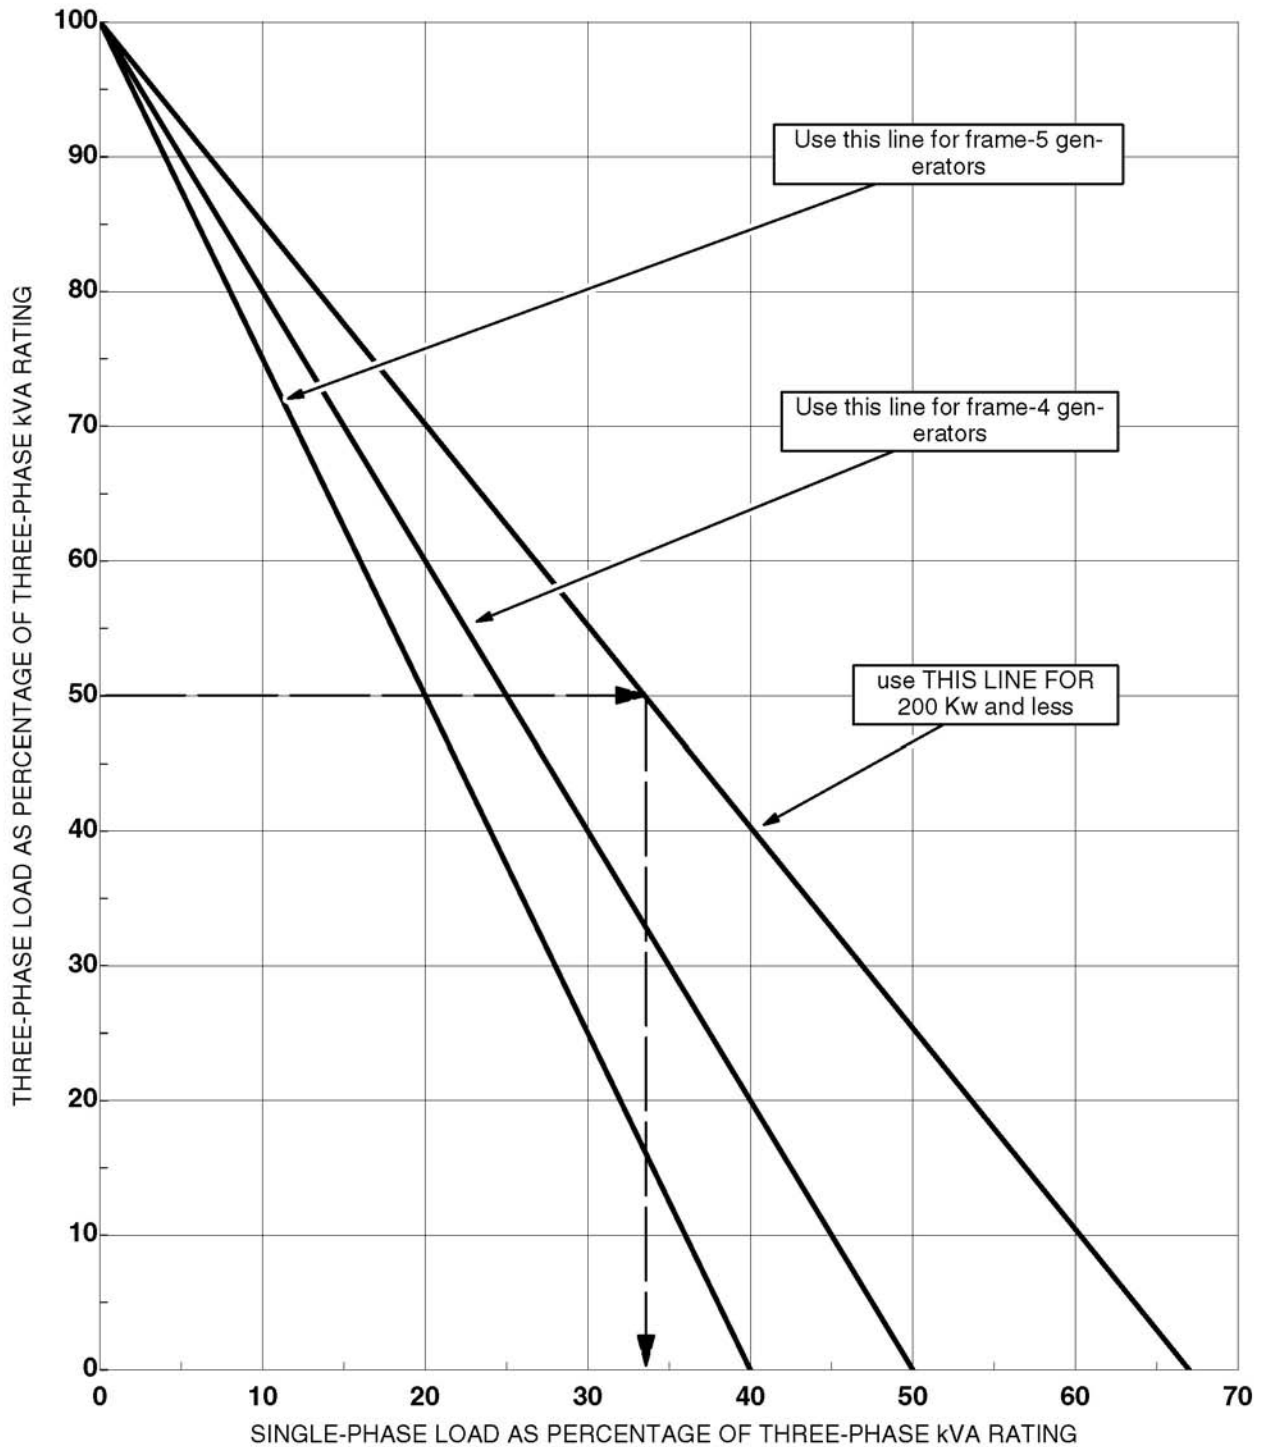

FIGURE 40. ALLOWABLE UNBALANCED SINGLE-PHASE LOAD (TYPICAL THREE-PHASE GENERATOR FROM CUMMINS POWER GENERATION)
Single-phase loads should be distributed as evenly as possible between the three phases of a three-phase generator set in order to fully utilize the rated capacity (kVA and kW) of the set and to limit voltage unbalance. Figure 40 on page 95 can be used to determine the maximum permissible percentage of unbalanced single-phase load, as illustrated by the example calculation.
Generally, the larger the generator set, the lower the percentage of single-phase power that can be taken. Figure 40 on page 95 includes single-phase percentage lines for Cummins Power Generation intermediate-size Frame-4 and Frame-5 generators. Confirm the frame size by referring to the applicable Alternator Data Sheet referenced by the generator set Specification Sheet. Single-phase load unbalance should not exceed 10 percent.
2. Find the percentage of allowable single-phase load, as shown by the arrows in Figure 40. In this case, it is approximately 34 percent of the three-phase rating.